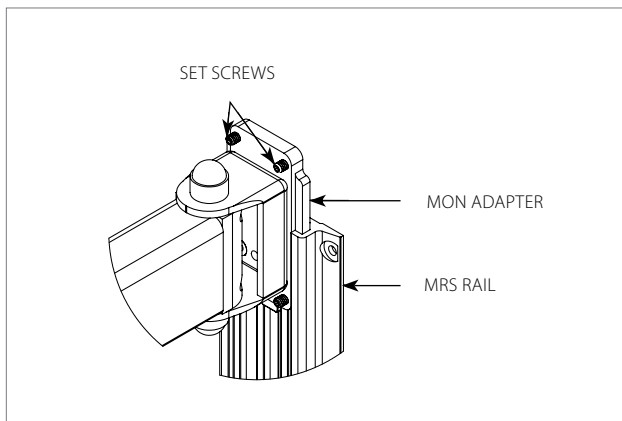

Figure 2
2. Once the AHM Arm is at the desired height, tighten all four **SET SCREWS** on the **MON ADAPTER** using a 1/8" (3 mm) Hex Key (**Figure 2**).